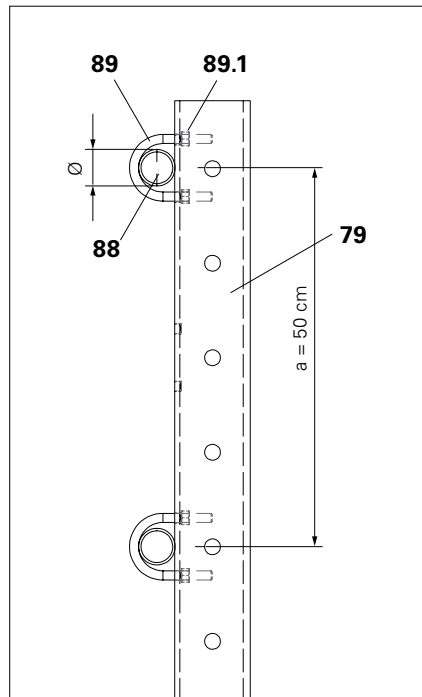

Fig. B5.03
1. Insert scaffold tubes in Clamp A64 DIN 3570 (**89**) and fix on the inner side to, e.g. Guardrail Posts, with Hex. Nut ISO 4032 M12-8 (**89.1**). (Fig. B5.03)